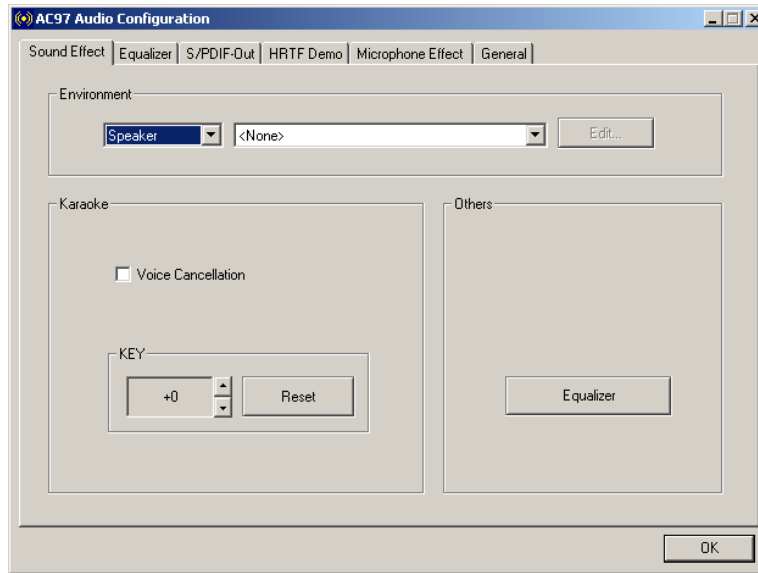

Figure H-3: Sound Effects Manager (ALC203)
Step 3: The sound effect manager appears (**Figure H-3**).
The Sound Effect Manager shown in **Figure H-3** is for the RealTek ALC203 audio CODEC. Different CODECs may have different sound manager appearances.
The **Sound Effects Manager** enables configuration of the items listed below. To configure these items click the corresponding menu tab in the **Sound Effects Manager** (**Figure H-3**).